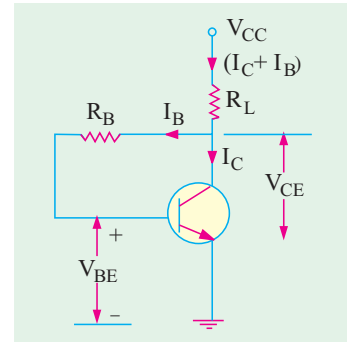

Fig. 58.11
3. base bias with collector feedback (Fig. 58.11)
This circuit (Fig. 58.11) is like the base bias circuit except that base resistor is returned to collector rather than to the V_{CC} supply. It derives its name from the fact that since voltage for R_B is derived from collector, there exists a negative feed back effect which tends to stabilise I_C against changes in β . To understand this action, suppose that somehow β increases. It will increase I_C as well as $I_C R_L$ but decrease V_C which is applied across R_B . Consequently, I_B will be decreased which will partially compensate for the original increase in β .
Example 58.7. In Fig. 58.11, $V_{CC} = 12 \text{ V}$, $V_{BE} = 0.7 \text{ V}$, $R_L = 1\text{K}$, $R_B = 100\text{K}$, $\beta = 100$. Find (i) I_C , (ii) V_{CE} , (iii) I_B , (iv) K_β and (v) S .